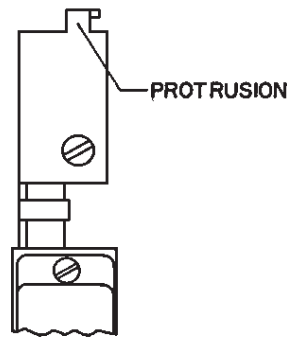

Figure 2
3. Locate protrusion on top of interlock. See Figure 2.